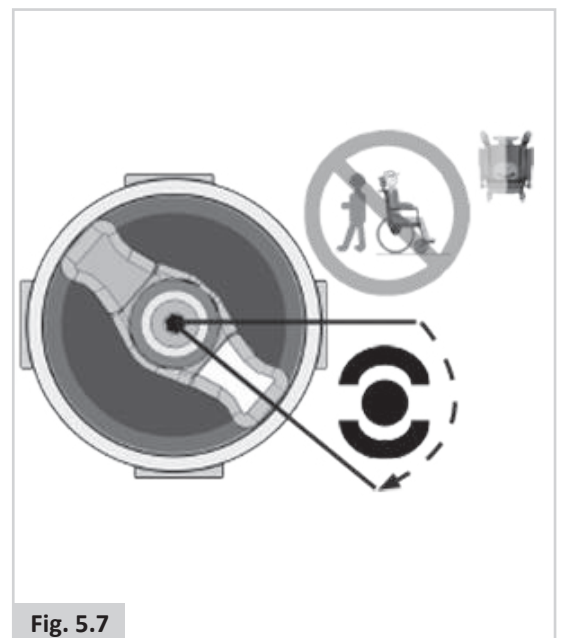
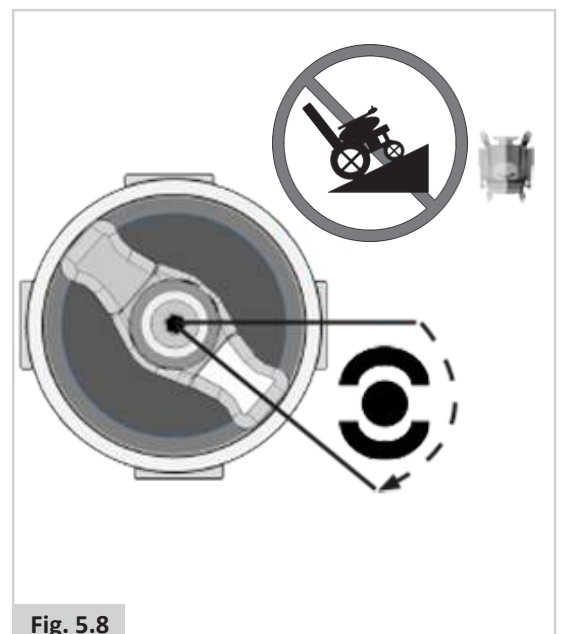

Fig. 5.7
Fig. 5.8
2. For disengaging the motors. (Fig. 5.7 - Fig.5.8).